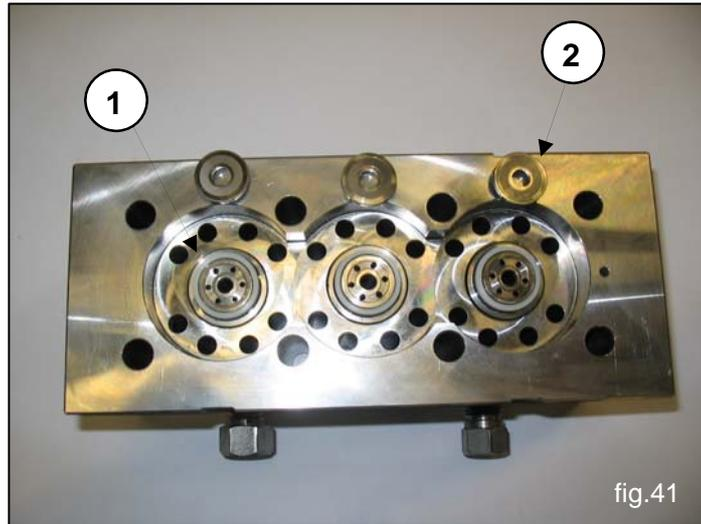

fig.41
During disassembly of the liners, take care not to disperse the valve seats ① and the flat valves ② as indicated in fig. 41 as these, being positioned at stroke, could fall.